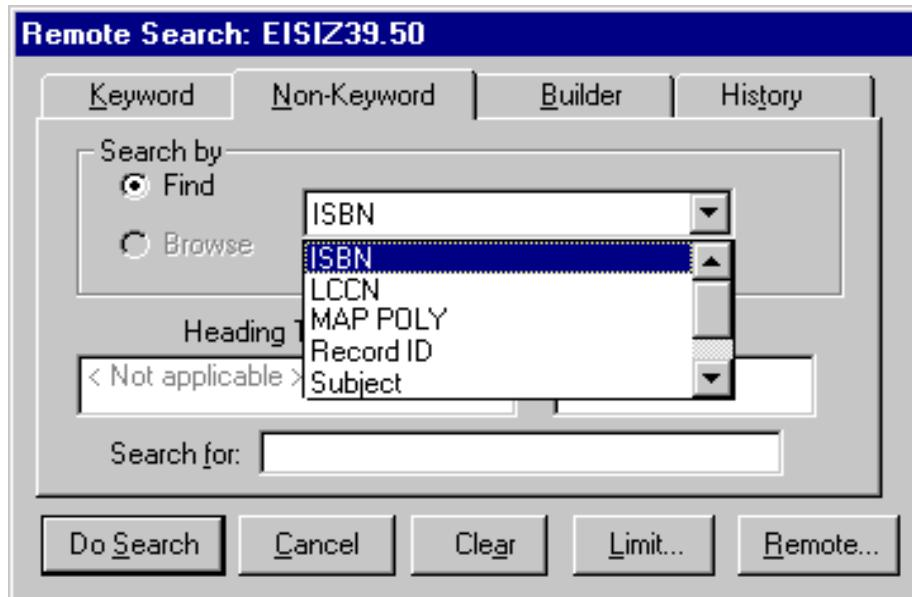

Figure 2-41. Remote Search dialog box, Search by options
- If you are connecting to one database, the **Remote Search** dialog box opens (see Figure 2-41) with the name of the database displayed in the title bar. If available from the remote server, the same search types are available as those in the regular local search display.